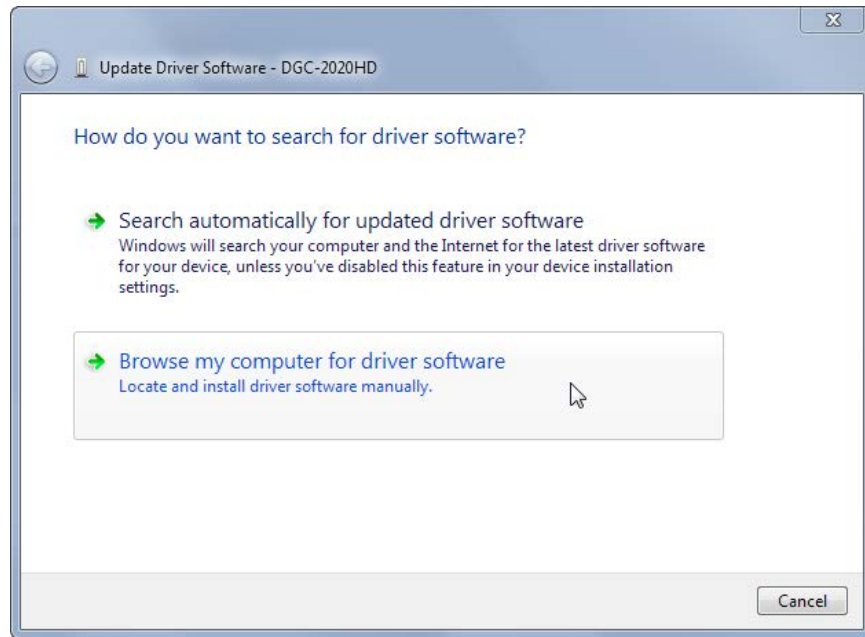

Figure 34. Update Driver Software - DGC-2020HD
Step 4. Select Browse My Computer for Driver Software as shown in Figure 34.